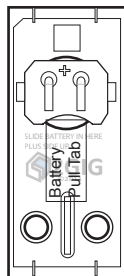

Figure 3
- 1 Attach the existing 24V AC household doorbell wiring to base of the module using 6-32 x 1/8" machine screws. If this step is skipped, the door bell will work only with the 2GIG control module and the LED will not be illuminated. Refer to Figure 3.
- 2 Place a small flathead screwdriver in the slot between the metal clip (see Figure 3) and the battery and push it out taking care not to scratch the battery terminal on the PCB.
- 3 Insert the replacement battery with the + sign facing out (see Figure 3)
WARNING! The polarity of the battery must be observed, as shown (see Figure 3). Improper handling of lithium batteries may result in heat generation, explosion or fire, resulting personal injuries. Replace only with the same or equivalent type of battery as recommended by the manufacturer (see Specifications).